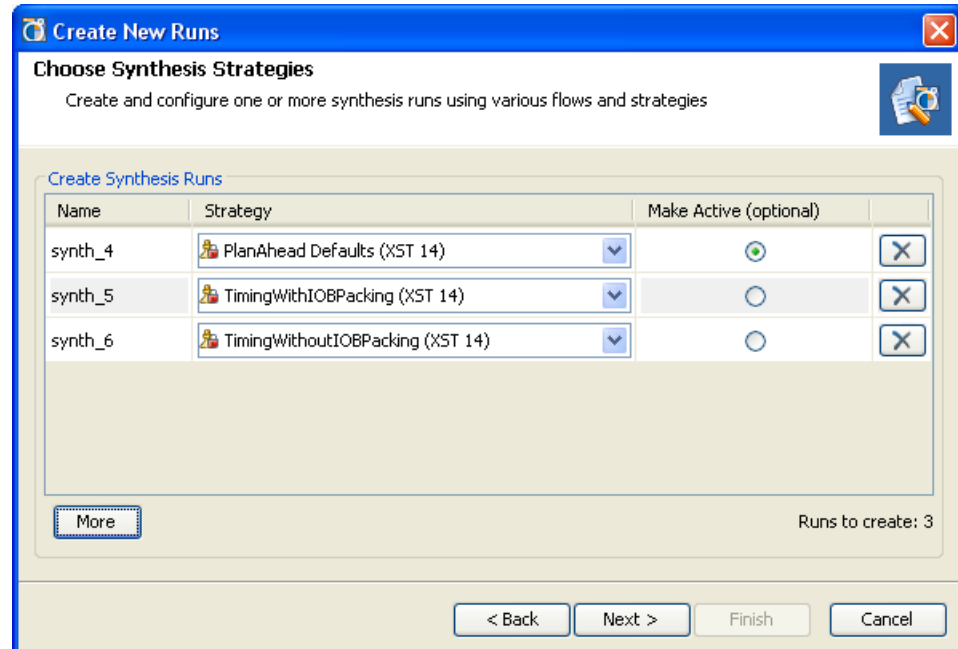

Figure 6-3: Choose Synthesis Strategies
The **Choose Synthesis Strategies** dialog box opens, as shown in Figure 6-3, page 211.
9. Click the **More** button to define additional runs. Specify names and strategies for the added runs as shown in Figure 6-3, page 211.